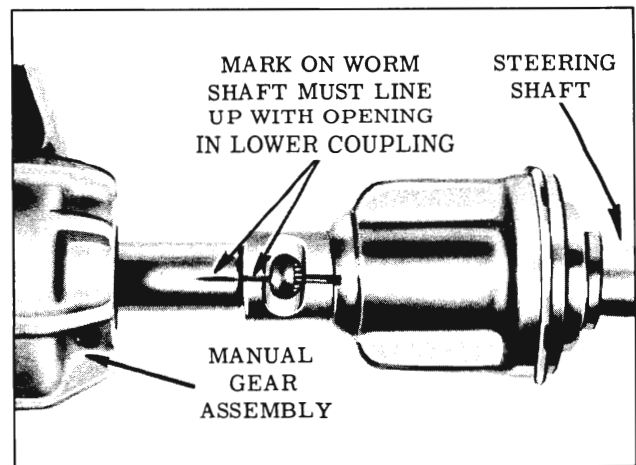

Fig. 4-287 Coupling to Steering Shaft Position
9. Remove coupling seal retaining ring. (Fig. 4-287)
4. Lower the steering shaft (guide upper bearing into actuator assembly) and connect the coupling to the worm shaft matching up the alignment marks on the worm shaft with slot of clamp surface of coupling. (Fig. 4-287)